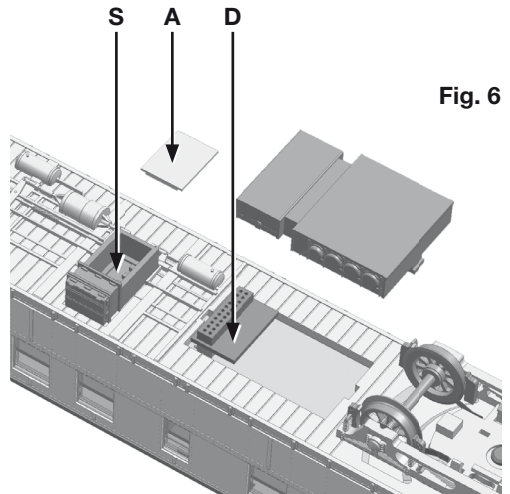
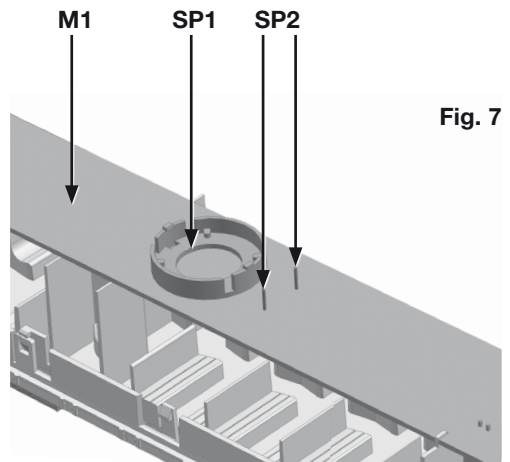

Fig. 6
Fig. 7
The railcar was normally used on its own. However, one or other goods trucks was added on secondary routes. To enable you to also depict the model in this scenario, the front or rear light can be set depending on the version used. The integrated multiswitch (S) can be located by removing the cover plate (A) on the underside of the rail car as shown in Fig. 6. Please pay attention to the circuit diagram for the switch in Fig. 5. The model comes with the light change white/red in both directions.
Directly next to the multi-switch shown in **Fig. 6** on the underside of the railcar is also the 21-pin interface (**D**) for the digital decoder. After unclipping the cover, the jumper can be removed and the decoder attached.
The railcar already comes completely prepared for locomotive sound operation. After fitting the sound decoder as shown in **Fig. 6**, the socket (**SP1**) for the loudspeaker is located on the top of the circuit board (**M1**) as per **Fig. 7**.